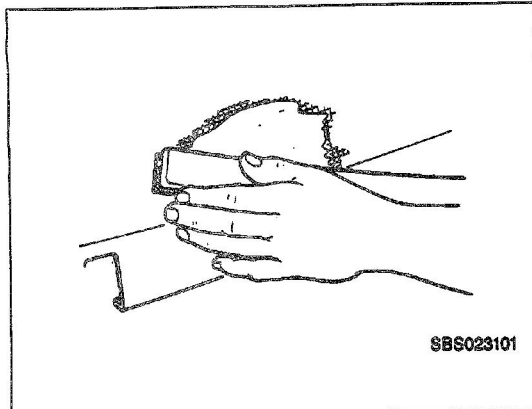
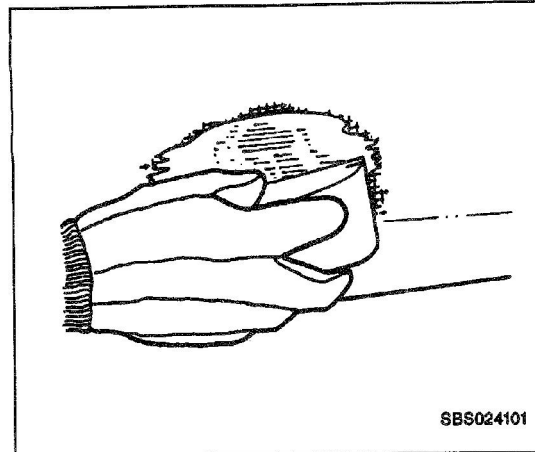

Figure 16—Establishing Rough Contour with Body File
Figure 17—Block Sanding for Accurate Contour
6. Establish rough contour where possible with a curved tooth body file (Figure 16). Follow by block sanding using #220 grit sandpaper to establish accurate level and contour with the surrounding surface (Figure 17). If low areas or pits remain, apply 3M Flexible Parts Putty P/N 05903, or equivalent. Allow flexible parts putty to dry at least 15 minutes. For final feathering, use a random orbit sander with a #320 grit disc.